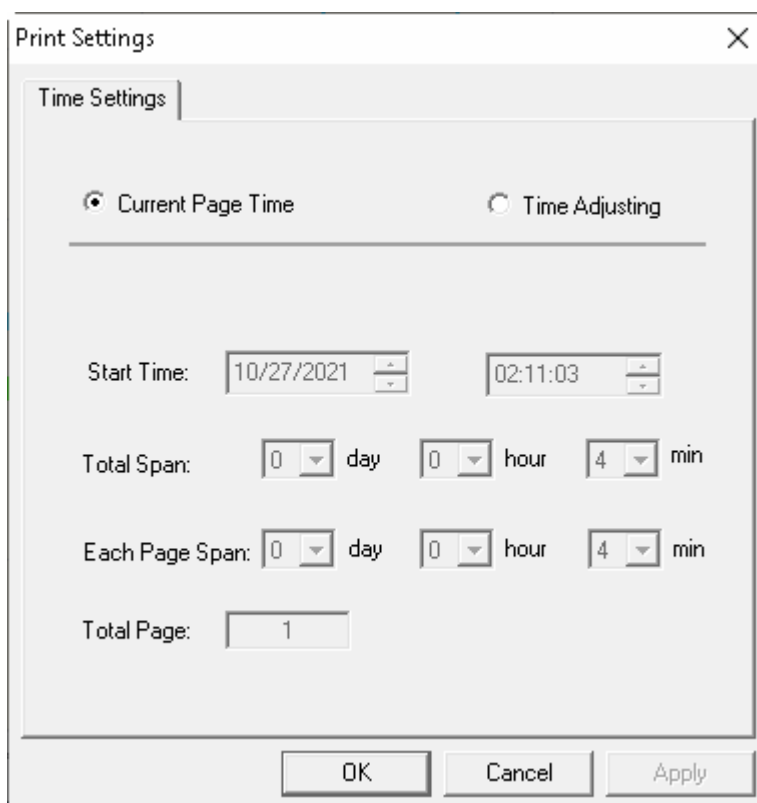

Figure 6-16 Print setting window
- Click  **Print** button (its function is same as ) , pop up print setting window as shown in Figure 6-16.